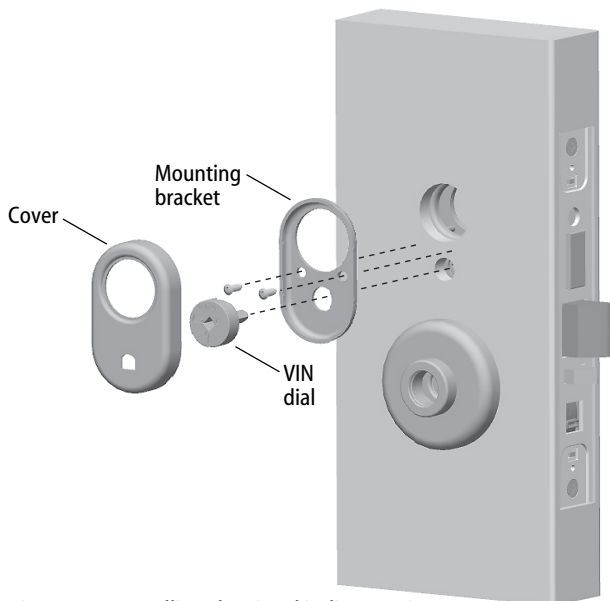

Figure 13 Installing the visual indicator trim
- 3 Orient the visual indicator (VIN) dial with the text at the top and position it in the door as shown in Figure 13.